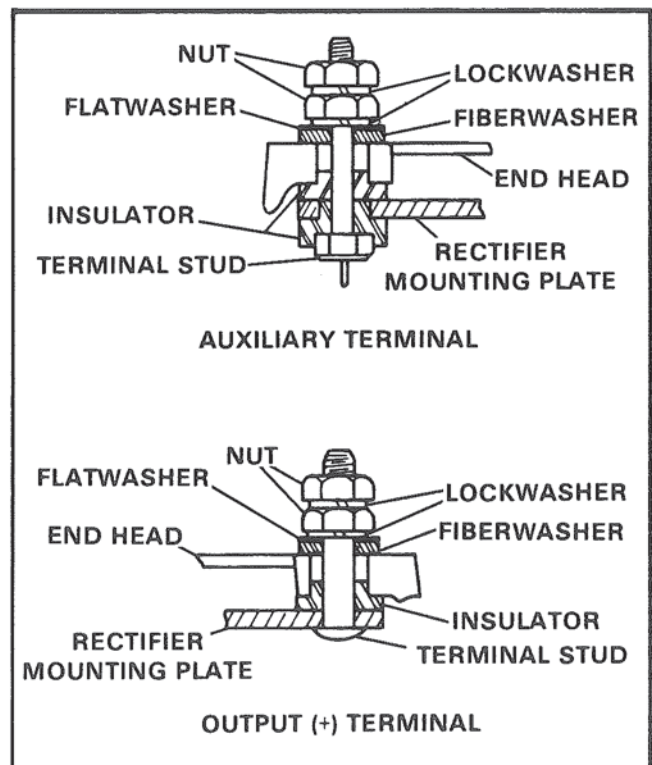

Figure 38. Correct Assembly of Insulators.
4. Reassemble rectifiers mounting plate (heat sink) studs and insulators. Figure 38.